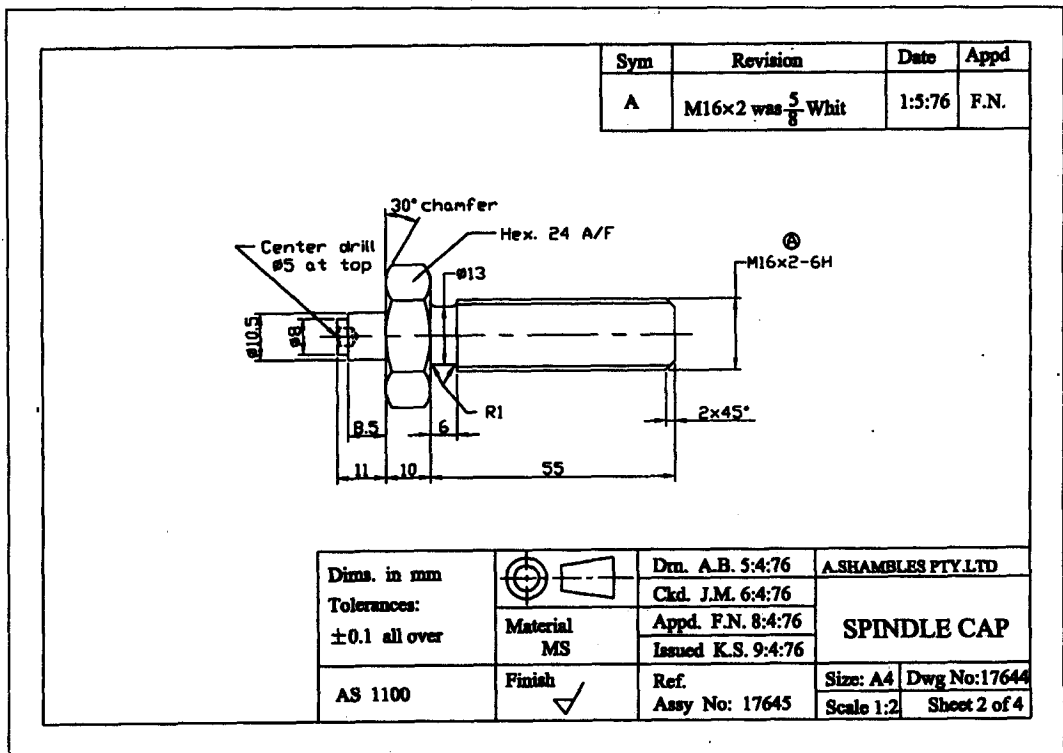

Fig. 1.1 A detail drawing
**Detail drawings** The detail drawing is used as the main reference in the manufacture of individual components. It should contain sufficient information to manufacture the part as well as suitable, fully dimensioned orthographic view of each part, together with other information that may be required in the manufacturing process. ③ A complete detail drawing should contain at least the following information (not necessarily in order of importance) (Fig. 1.1):